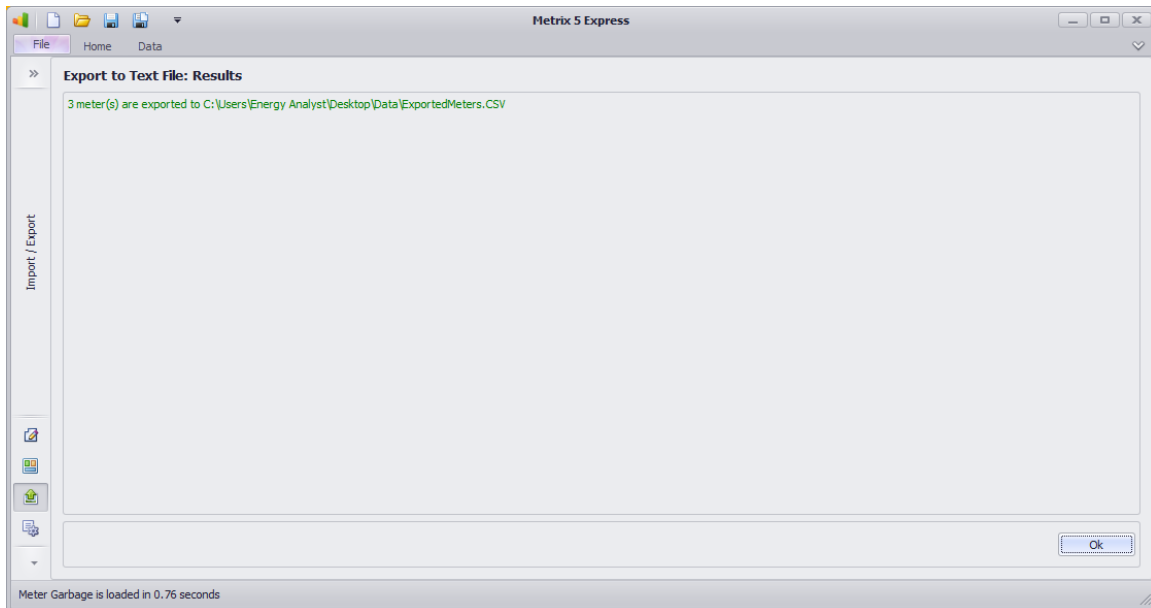

Figure 5.10: Screen for a successfully exported text file.
5. **Check the results:** if the file has been successfully exported, a screen like the one in Figure 5.10 will appear.